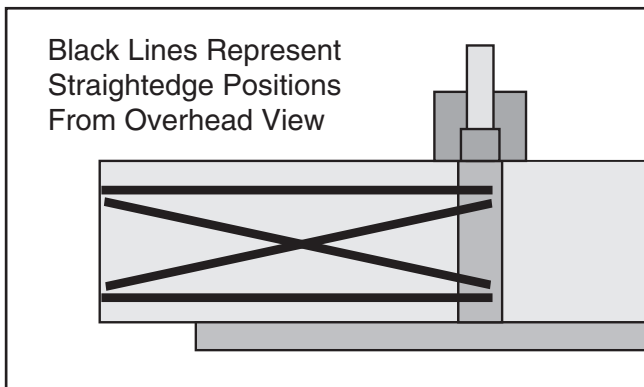

Figure 43. Straightedge positions for verifying outfeed table parallelism.
- Place straightedge in the positions shown in **Figure 43**. In each position, straightedge should touch cutterhead and sit flat on outfeed table.